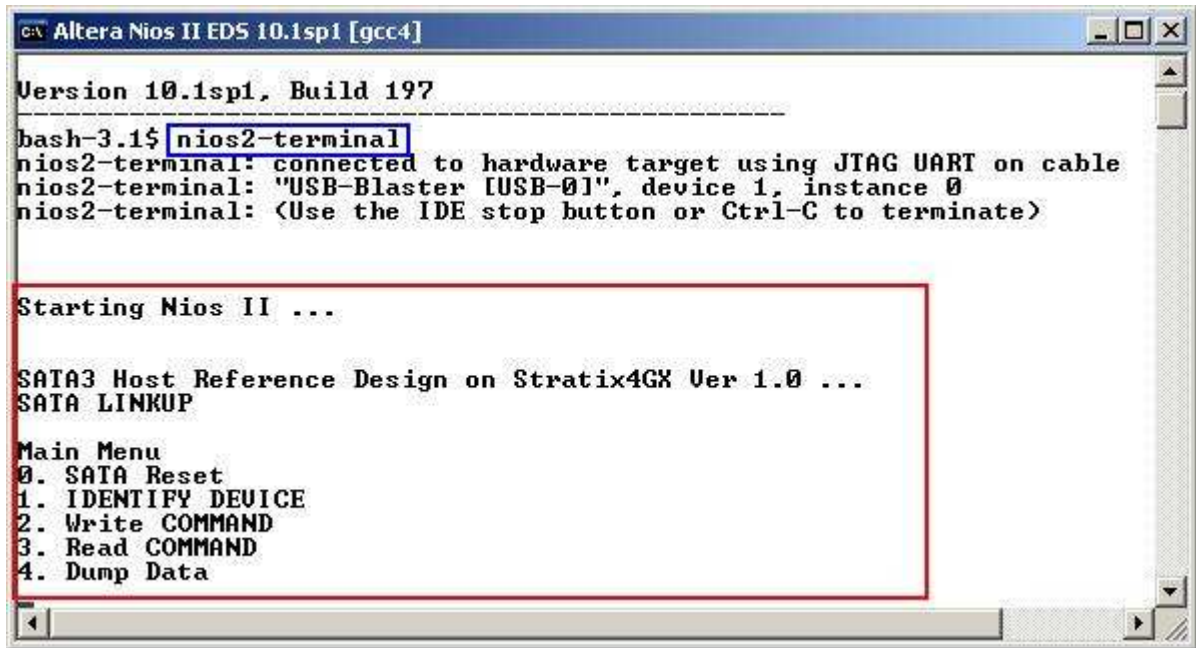
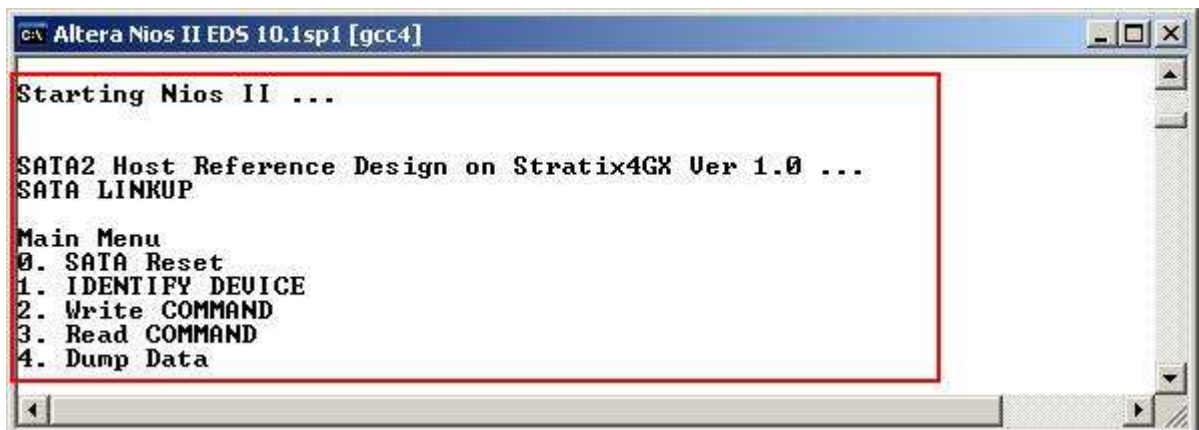

Figure 8 Run NIOSII Terminal and boot-up screen for SATA-III
Figure 9 Boot-up screen for SATA-II
- Type “nios2-terminal” and then boot-up screen with Main menu for running SATA host demo is displayed, as shown in Figure 8 and Figure 9. More details about each Menu are described in next topic.